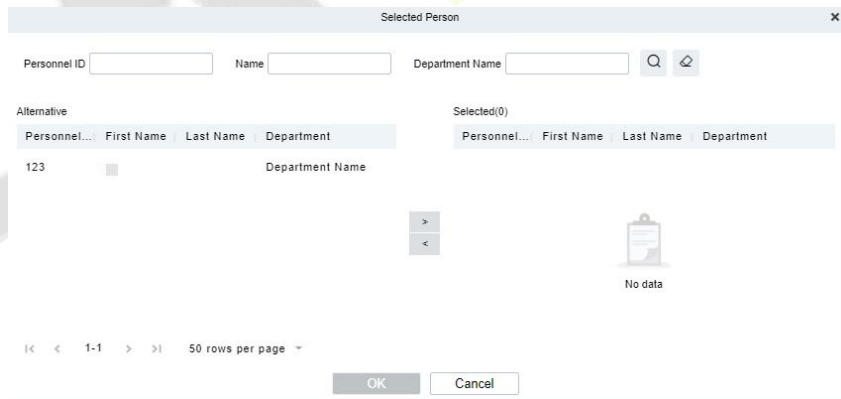

Figure 19-9 Select Person Interface
Step 2: Select a panel, click , and the interface of **Select Person** will pop up. As shown in the figure 19-9.